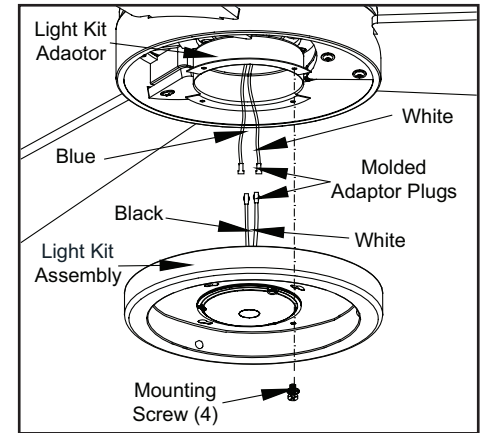

Figure 13
1. Loosen but do not remove three of four mounting screws from the fan motor assembly; Remove one mounting screw. (Figure 13)
2. Push the light kit fitter assembly up to the fan motor assembly so that the three loosened screw heads fit into the keyhole slots. Turn the light kit fitter assembly clockwise, tightened the screws. Re-install the screw that was removed in step 1 and tighten firmly. (Figure 13)